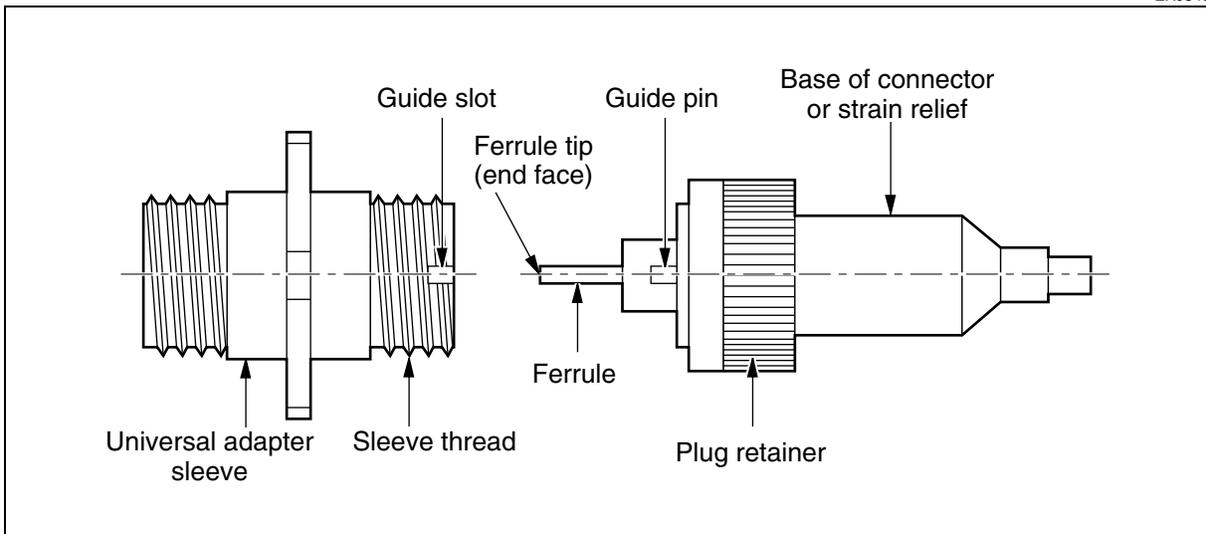
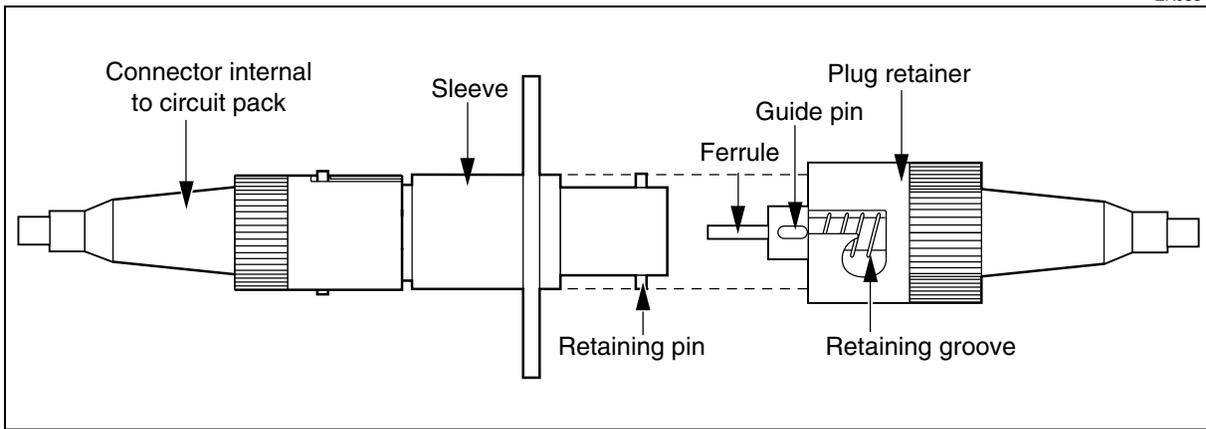
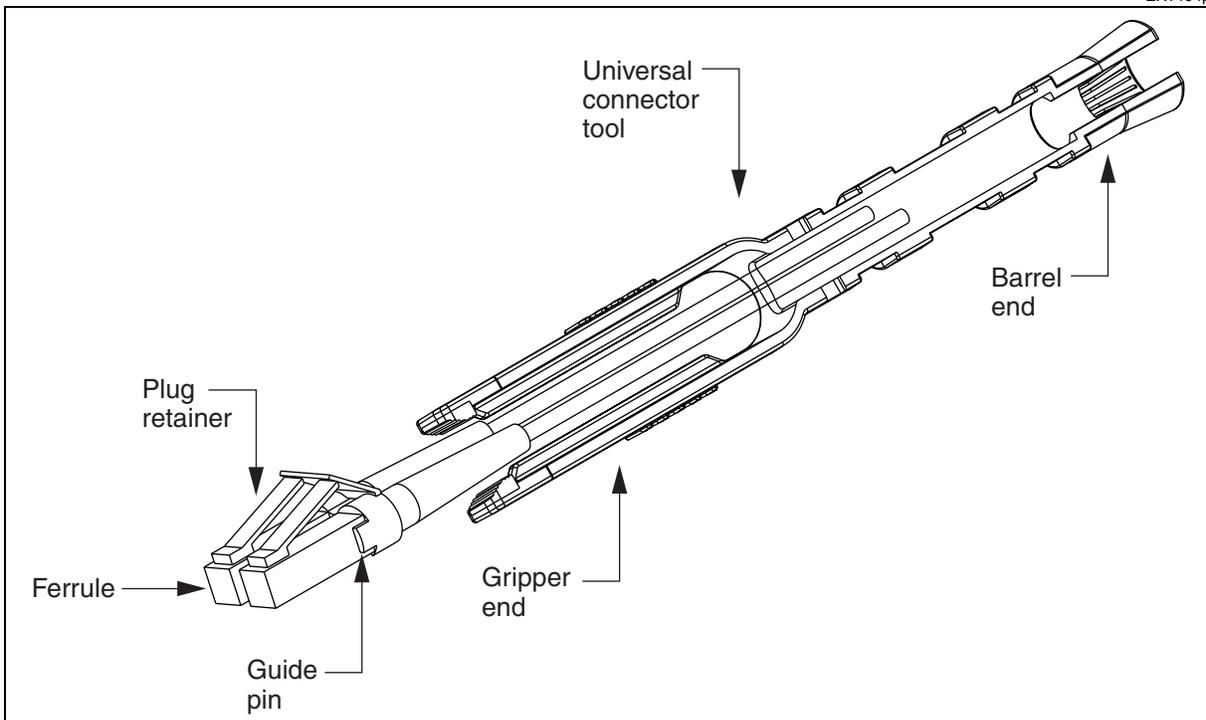

Figure 4-3
Figure 4-5
Figure 4-6
- subscriber (SC), the plastic snap-in type. See Figure 4-3 on page 4-14.
- LC, the plastic snap-in type with RJ-style latch. See Figure 4-5 on page 4-15.
- MT-RJ, the plastic snap-in type with RJ-style latch. See Figure 4-6 on page 4-16.
21	Insert the ferrule into the sleeve so the guide pin enters the guide slit. <ul style="list-style-type: none"> • For SC connectors, see Figure 4-3 on page 4-14. • For LC connectors, see Figure 4-5 on page 4-15. • For MT-RJ connectors, see Figure 4-6 on page 4-16.